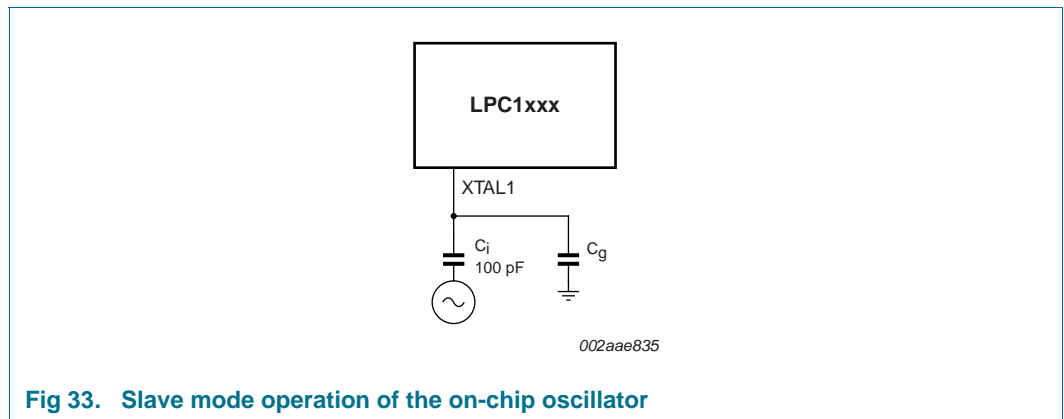

Fig 33. Slave mode operation of the on-chip oscillator
- In slave mode, couple the input clock signal with a capacitor of 100 pF (C_C in Figure 33), with an amplitude of at least 200 mV (RMS). The XTAL2 pin in this configuration can be left unconnected.